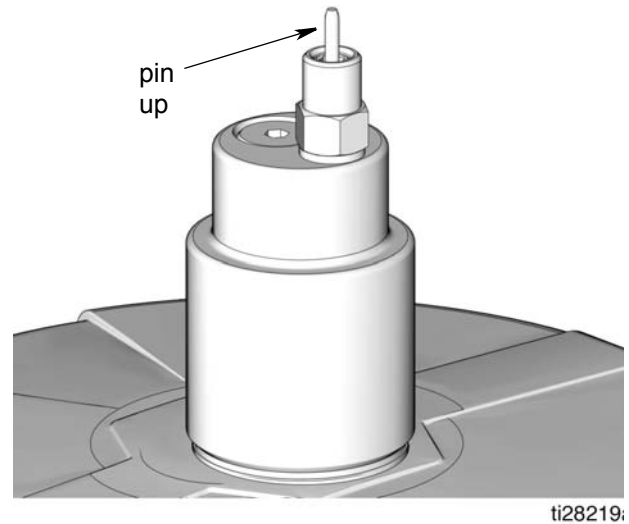

FIG. 12
3. Remove yellow Dust Cover from Fill Coupler (M).
4. Connect Supply Hose (G) between the Remote Filling Station Pump (F) and Fill Coupler port marked with an "I".
5. Start Remote Filling Station Pump (F).
6. When the G3 Reservoir (D) is filled:
- the Remote Filling Station Pump (F) stalls (dead-heads),
- the Auto-Fill Shut Off (B) pin pops up as shown in FIG. 12,
- the Pressure Gauge (R) rises to the fill pump's set pressure.